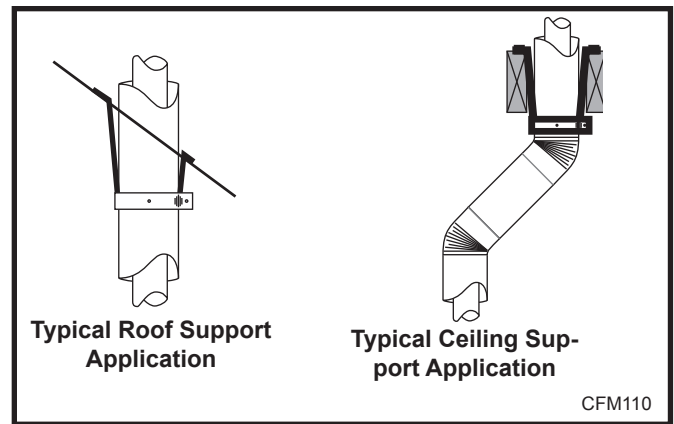
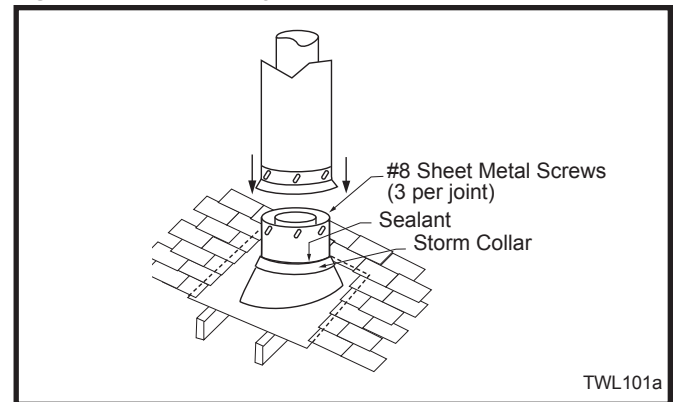

Fig. 31 Roof and ceiling supports.
Fig. 32 Roof flashing.
- 7DVCS must be used to support offsets. (Fig. 31) This application will require that you first determine the roof pitch and use the appropriate starter kit. (Refer to Venting Components List)
7. Install roof support (Fig. 31) and roof flashing making sure upper flange of flashing is below the shingles. (Fig. 32)
8. Install appropriate pipe sections until the venting is above the flashing. (Fig. 32)
The enlarged ends of the vent section always face downward. (Fig. 32)